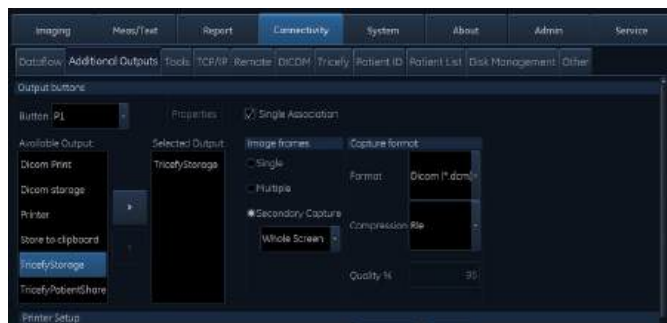

Figure 3-69. The Additional Outputs Sheet
1. The *Additional output sheet* is displayed (see Figure 3-69).